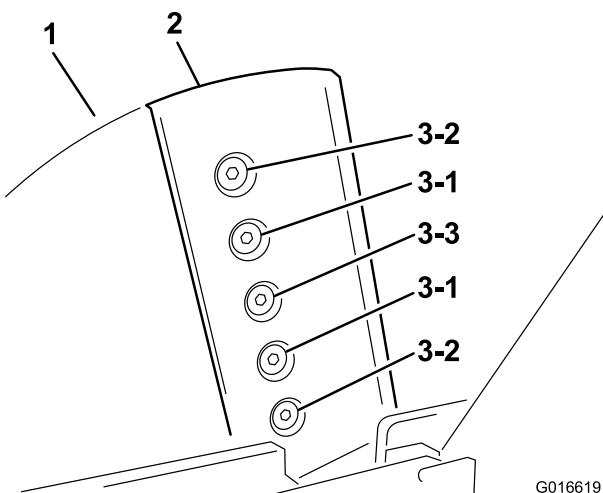

Figure 29
2. Rotate the flywheel using a stick until the bolts and lock nuts attaching the cutter blades to the flywheel are accessible (Figure 29).
5. Tighten the center bolts and nuts first, then tighten the outer bolts and nuts, and finally tighten the inner bolts and nut. See sequence for tightening (Figure 29).